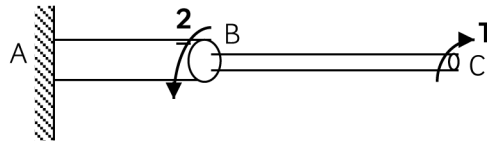

Figure Q2
- 1 a) A solid bar 4.2 m long and 40 mm in diameter was found to extend by 4.2 mm under a tensile load of 45 kN. Find the Elastic Modulus (E) of the bar. (7 marks)
- 2 A stepped steel shaft is shown in Figure Q2. This shaft is subjected to a torque T at the free end and a torque of 2T in the opposite direction at the junction of two sizes. The length and diameter of shaft AB are 1.5 m and 200 mm. The length and diameter of shaft BC are 2.5 m and 150 mm. The modulus of rigidity of the shaft material is 85 GN/m². Polar moment of inertia (I_p) = $\pi D^4/32$.